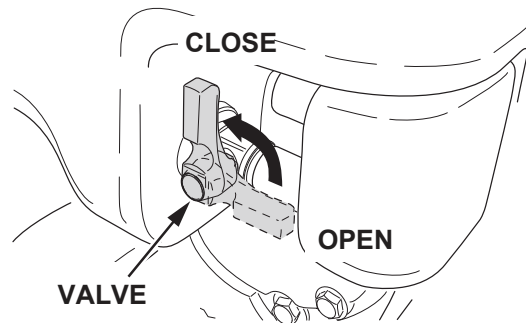

Figure 27. Water Tank Valve (Close)
2. When stopping sprinkling work, close the valve of water tank (Figure 27).